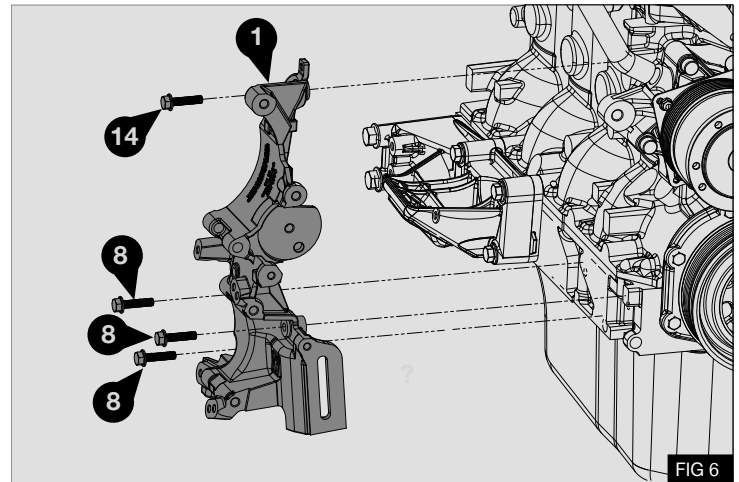

FIG 6
2. Fit the mount bracket (1) to the points shown on the engine using 4 x M8x 35 bolts (8) M8x 30 bolt (14) - Fig 6
3. Torque bolts (8) and (14) to 35Nm / 26 Lbft - Fig 6